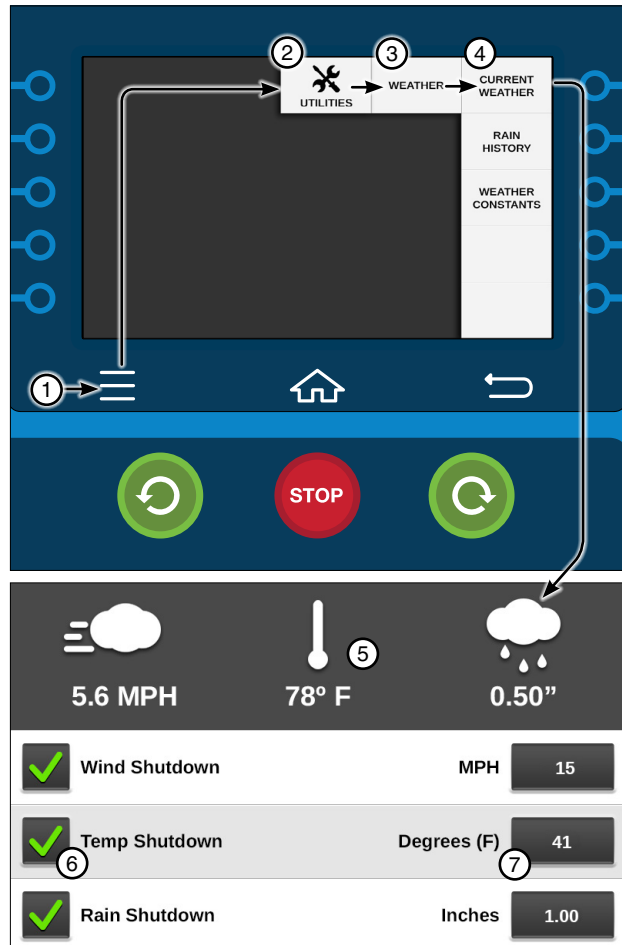

Figure 74-1 1. Menu 5. Temperature
1. Push **Menu**, **Utilities**, **Weather**, and **Current Weather** to display the Current Weather screen. Refer to Figure 74-1.
Check the **Temperature Shutdown** checkbox to enable the temperature shutdown function, and uncheck the checkbox to disable temperature shutdown function. Refer to Figure 74-1.